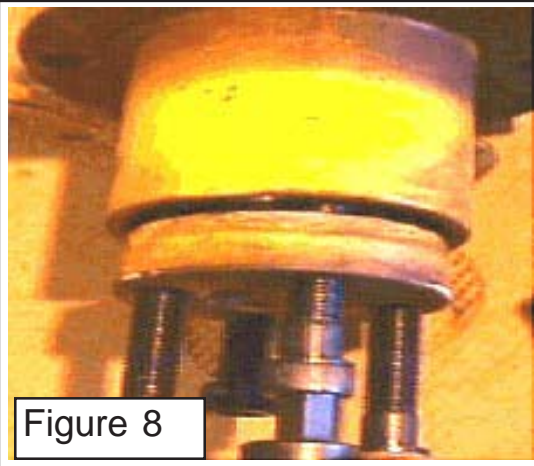
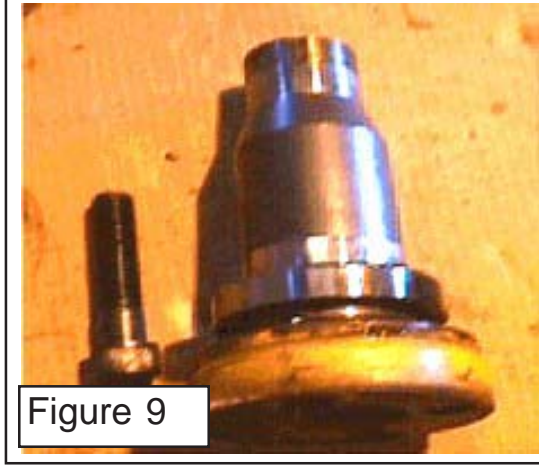

Figure 8
Figure 9
7. Remove the original bolts and replace them with 4 shanked bolts. In a clockwise pattern, rotate each bolt 1/4 turn at a time until the spindle shaft is free from the housing (figure 8). In some cases it may be necessary to use a drift punch and hammer to fully dislodge the shaft. Care should be taken to avoid damage to the shaft or housing. (figure 9).